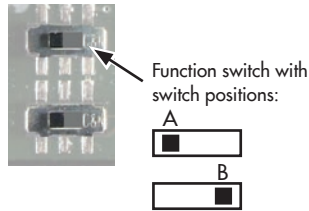

Fig. 7-1: *Function switch*
2. Switch the function switch briefly from its position to the other position and back again (see Fig. 7-1).